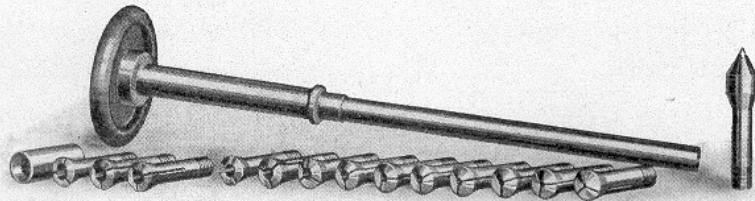

Fig. 6.
1. Collets with drawbar and chuck (Fig. 6). These are available from $\frac{1}{8}$ in. to $\frac{1}{2}$ in., rising by $\frac{1}{32}$ in.